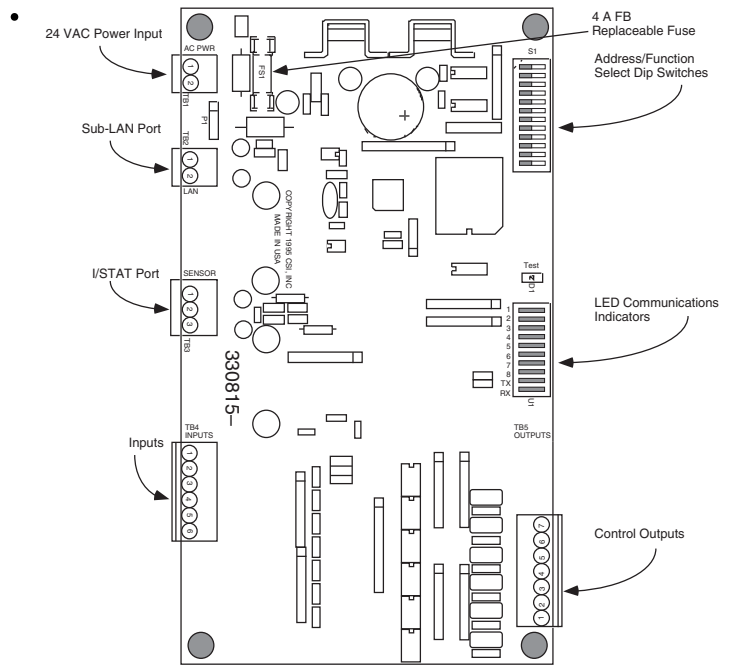

Figure 2. MR-HP (Cover Removed)
2. You will not need to remove the plastic cover to install the MR-HP, or any of the connections. To replace the 4A FB fuse, remove the plastic cover, remove the old fuse and install a new fuse (see Figure 2).